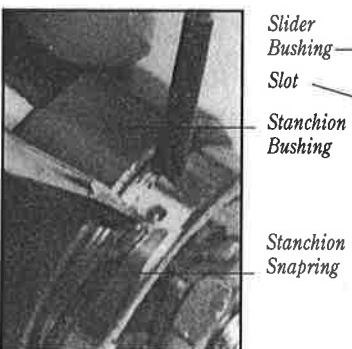

Fig. 15
3. Do not disassemble the valving mechanism in the end of the stanchion (Fig. 15). This part is pressed in and is not serviceable. If the valve is damaged, the entire fork leg must be replaced.